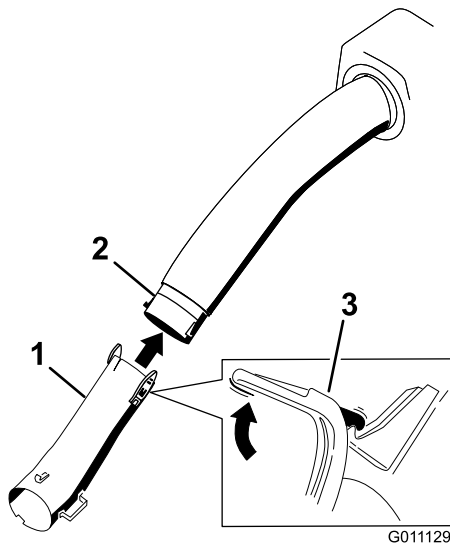

Figure 20
2. Install the lower tube into the middle tube so there is 2-1/2 inches (63.5 mm) of overlap (Figure 20).
13. Remove the hardware and the middle tube from the lower tube (Figure 20).
15. Install the lower tube into the middle tube and secure it with 3 bolts (#10 x 3/4 inches), 3 flat washers (7/32 inch), and 3 locknuts (#10) (Figure 20).